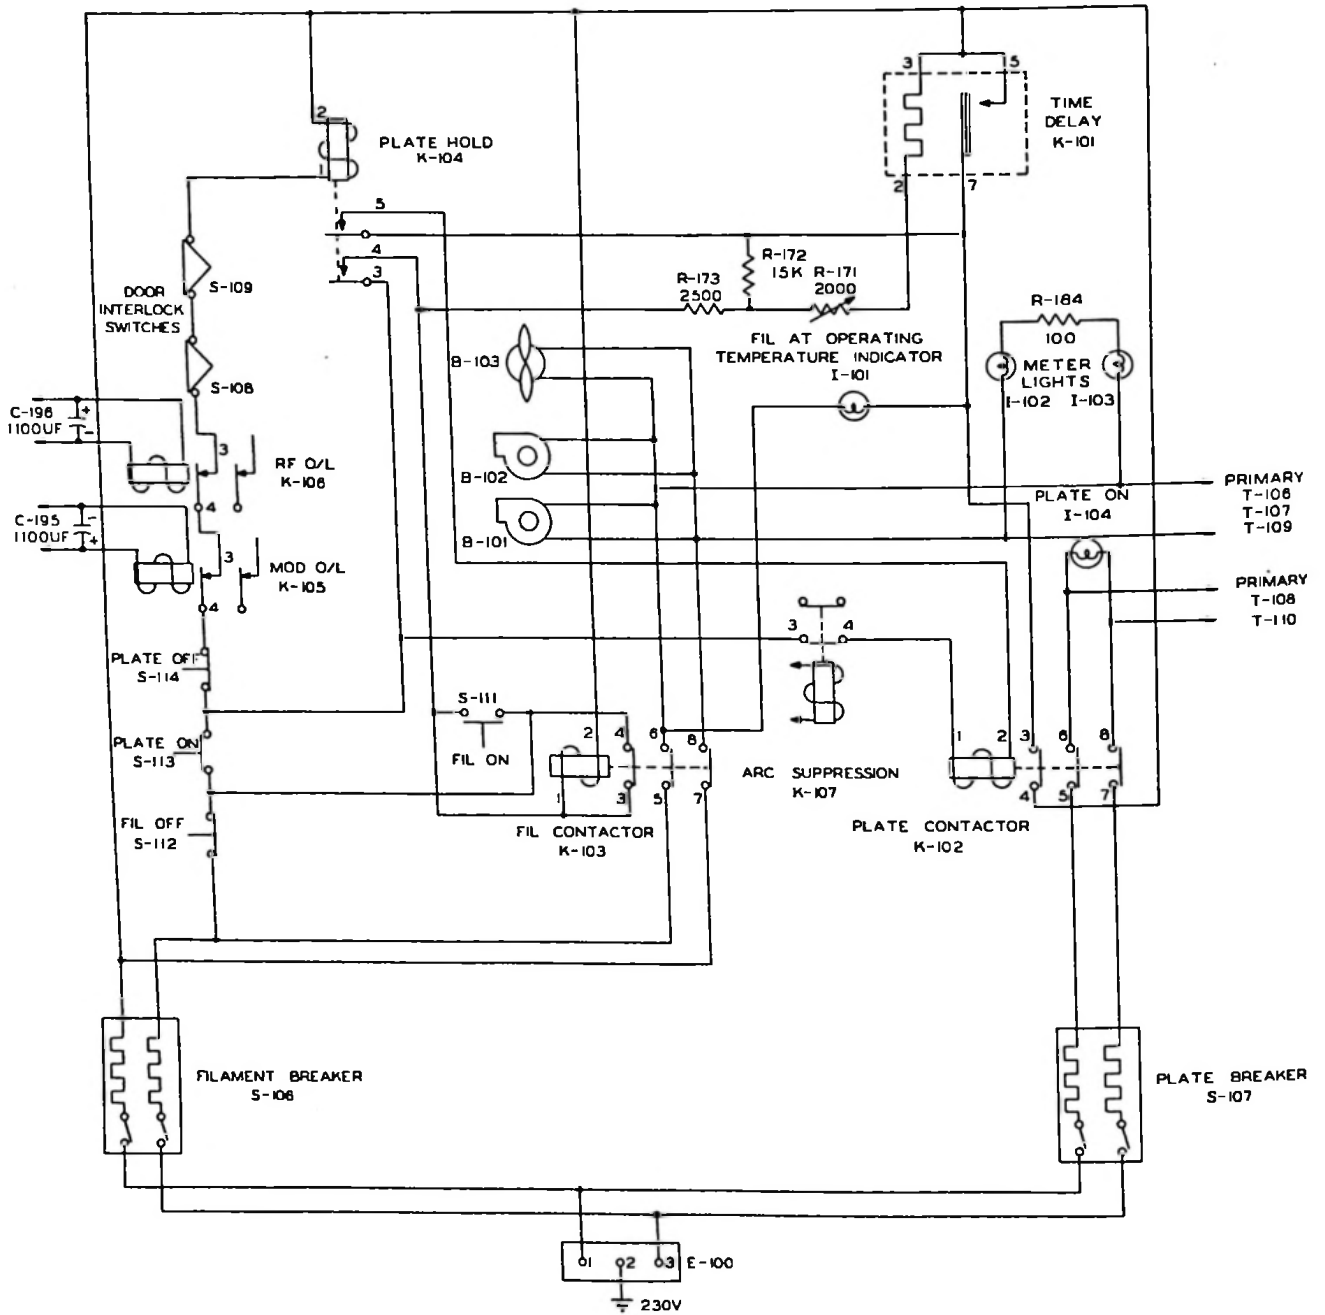

Figure 3-3. Primary Control Circuit Simplified Schematic
3.3. PLATE CONTROL (See figure 3-3.)
If the transmitter fails to start, circuits should be checked in the order in which they are made operative. The Primary Control Circuit Diagram, figure 3-3, should be of assistance in locating trouble in the primary circuits. Table 4-1, Typical Meter Readings, and table 4-2, Typical Voltages and Currents, are supplied as a reference of typical voltages and currents in an average 550A-1 transmitter. A list of typical readings of all panel meters of the individual transmitter should be made as an aid to rapid trouble shooting.